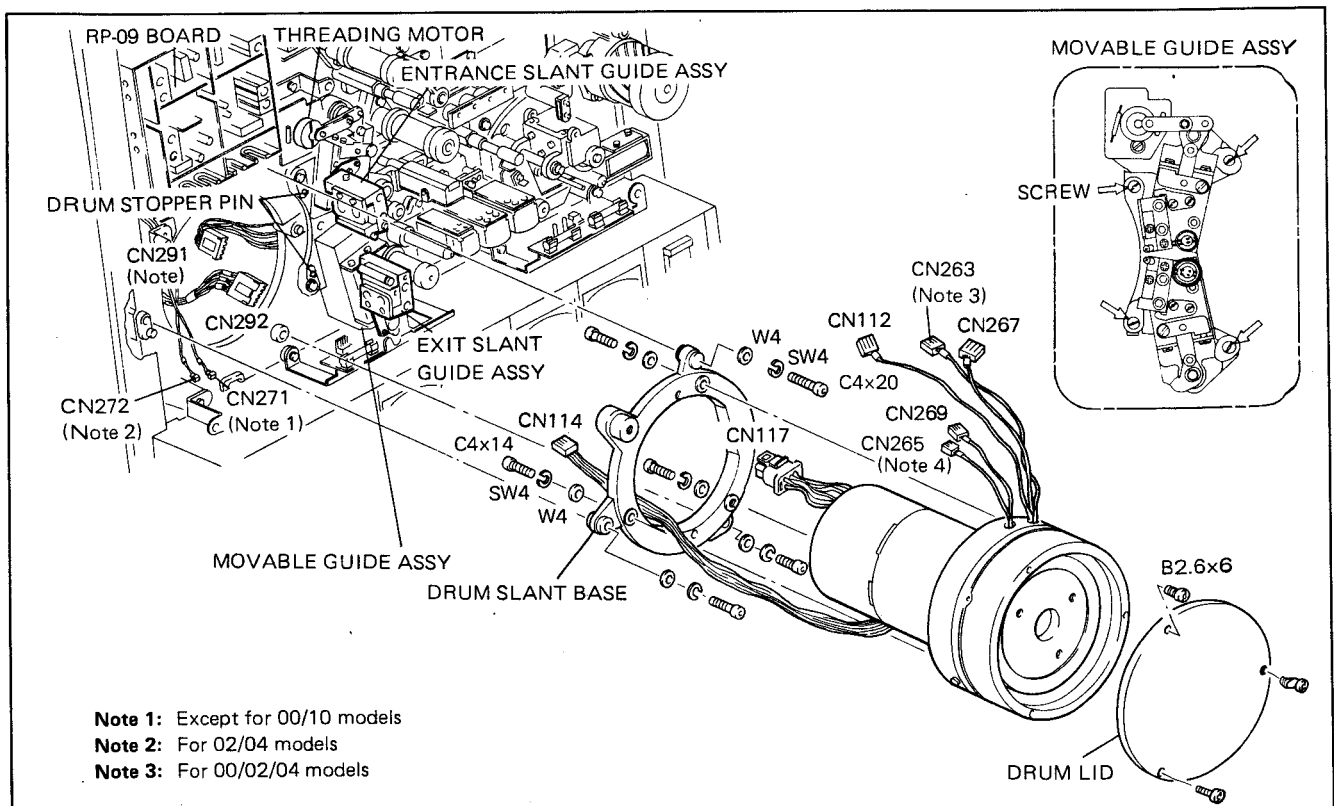

Fig. 3-9. Removal of the Head Drum Assembly
12. Refer to Fig. 3-9, and fix the drum slant base removed from the old head drum assembly with the three screws (C4×14) via the washers (W4) and the spring washers (SW4) to the new head drum assembly.